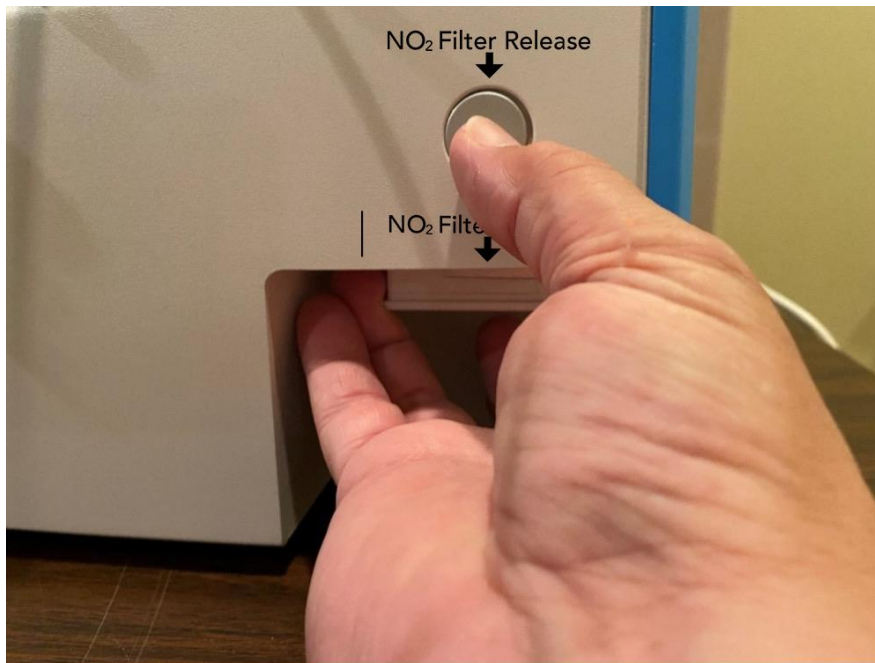

Figure 23: One-handed removal of NO₂ filter
- Remove existing filter (*see Figure 23*):